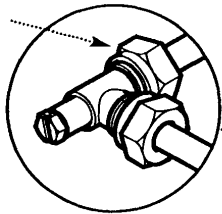

Fig. 38
5. Undo the disconnecting union on the gas supply (Fig. 38).